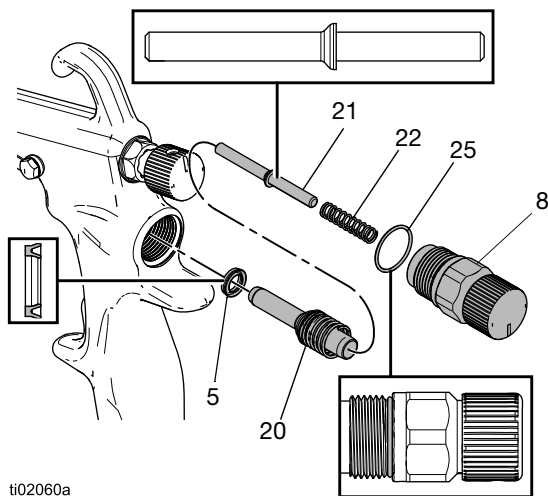

FIG. 31: Fluid Control Valve Assembly
1. Insert the packing u-cup (5), fluid adjustment valve (20), air valve stem (21), and spring (22) into the back of the gun.
2. Install the o-ring (25) onto the fluid adjustment housing (8).
3. Use a wrench or gun tool to tighten the fluid adjustment housing (8) into the gun body. Torque to 150 in-lb (16.9 N•m).
NOTE: Make sure the air valve stem (21) is oriented as shown in FIG. 31. The spring (22) should rest on the flat side of the air valve stem (21) when installed into the back of the gun.